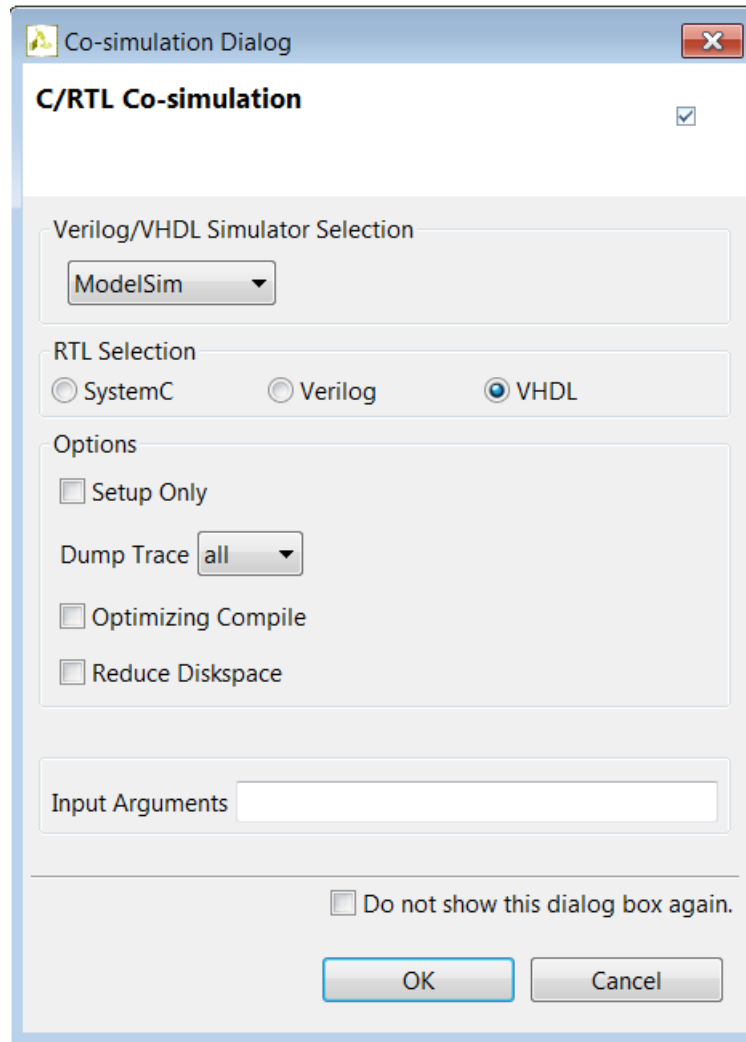

Figure 179: Cosimulation Dialog Box For Lab 3
- d. Activate the **Dump Trace** drop-down menu and select the **all** option, to have the options shown in Figure 179.